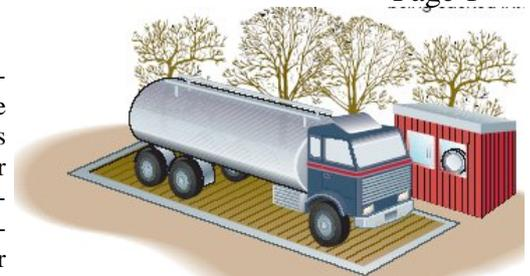

Fig 6.12 Tanker on a weighbridge.
1. Weighing the tanker before and after unloading and then subtracting one value from the other (Figure 6.12)